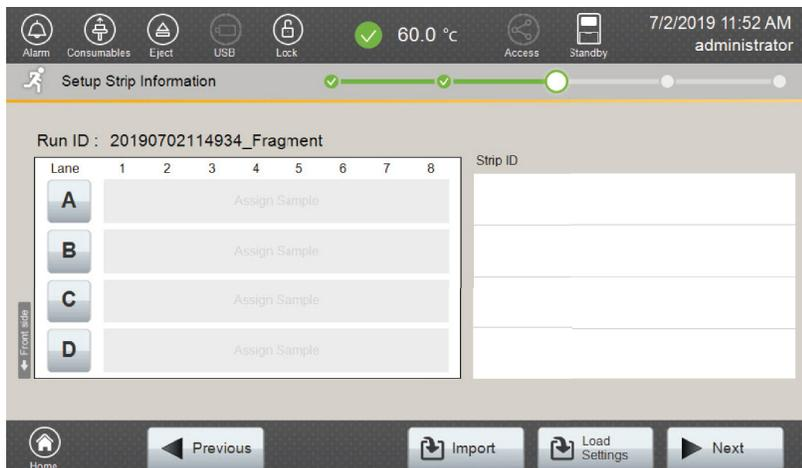
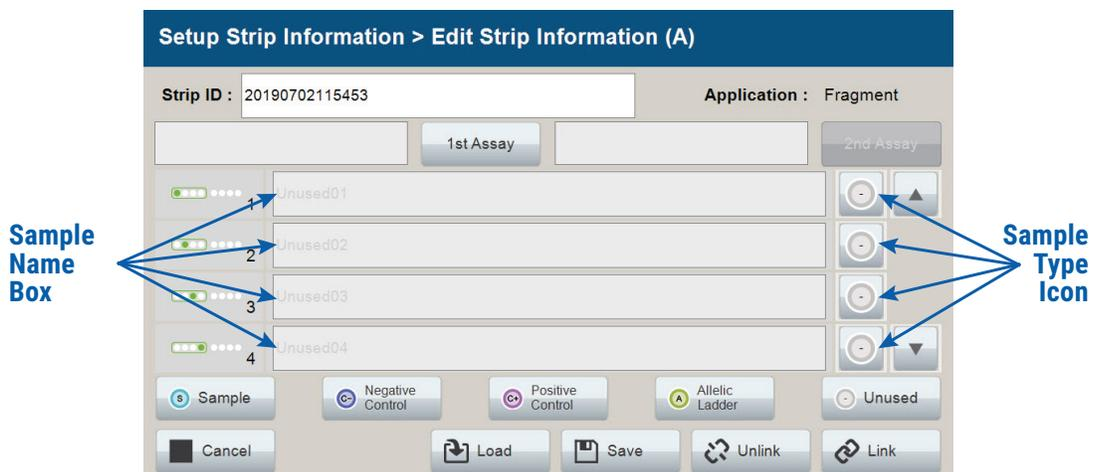

Figure 59. 'Setup Strip Information' screen.
Figure 60. 'Edit Strip Information' screen.
5. Select **Next** to access the 'Setup Strip Information' screen (Figure 59).
- b. The 'Setup Strip Information' screen is divided into two sections: Sample information and Strip ID. You can enter sample names for samples in a strip by selecting the icon indicating the lane (A, B, C or D) that corresponds to your samples' strip position within the sample cartridge. This opens the 'Edit Strip Information' screen (Figure 60) for the selected lane.
After selecting the desired lane (A, B, C or D) on the 'Setup Strip Information' screen (Figure 59), the 'Edit Strip Information' screen (Figure 60) displays fields for defining the Strip ID, run assay, sample name and sample type for that lane. Each well in the strip is represented along the left side of the screen. The first injection set of the strip (wells 1–4) is displayed on the screen. You can use the arrows on the right side of the screen to scroll to the second injection set (wells 5–8). Strip information can be manually entered into this screen as described below or loaded/imported from saved records (see Sections 5.3.3–5.3.4).